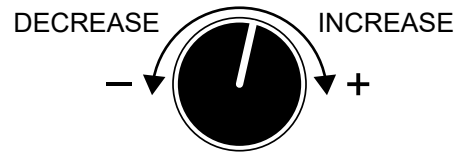

Figure 18. Voltage Regulator
3. Turn the **voltage regulator** (Figure 18) **clockwise to increase** voltage output, **counterclockwise to decrease** voltage output. Use the voltage regulator whenever fine tuning of the output voltage is required.